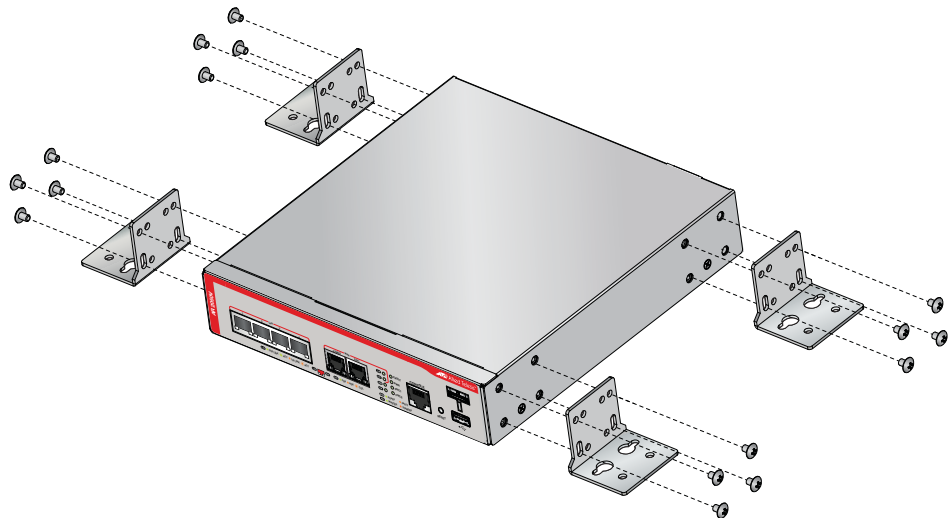

Figure 28. Attaching the wall mount brackets to the side of the router
3. Orient the brackets against the sides of the router, and secure them to the unit with the 16 brackets screws included in the wall mount kit. See Figure 28.